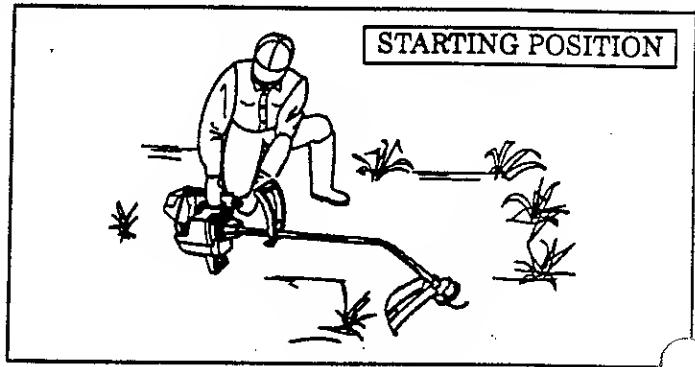

Figure 7
- b. Extend line approximately 6 inches from Trimmer Head to provide adequate load on engine. Figure 7.
- c. Rest Engine and Shield on ground, supporting Trimmer Head off ground away from trees, bushes, onlookers, etc. Figure 7.